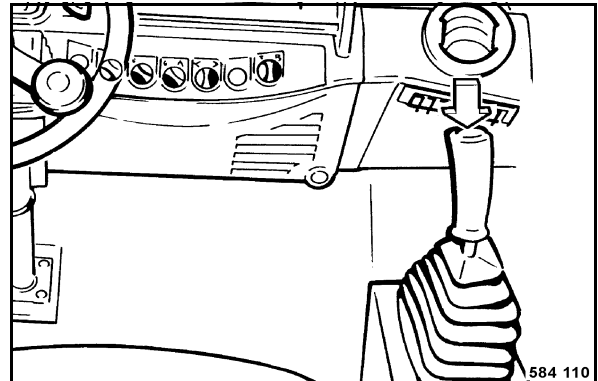

Fig. 96
- Switch the vibration on (Fig. 96).